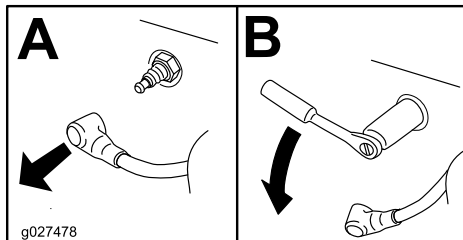

Figure 60
4. Locate and remove the spark plug(s) as shown in Figure 60.